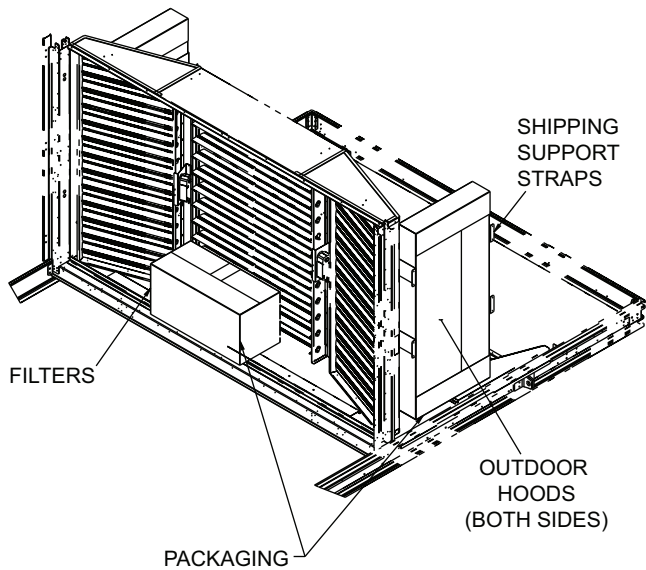

Fig. 16 — Packaging Locations
1. Remove the box from the unit (see Fig. 16).
2. Remove filters located between return/exhaust fan and economizer dampers, these are packaged separately from hoods for shipping (see Fig. 16). Screws, other hardware and seal strips are packaged with the outdoor hoods.